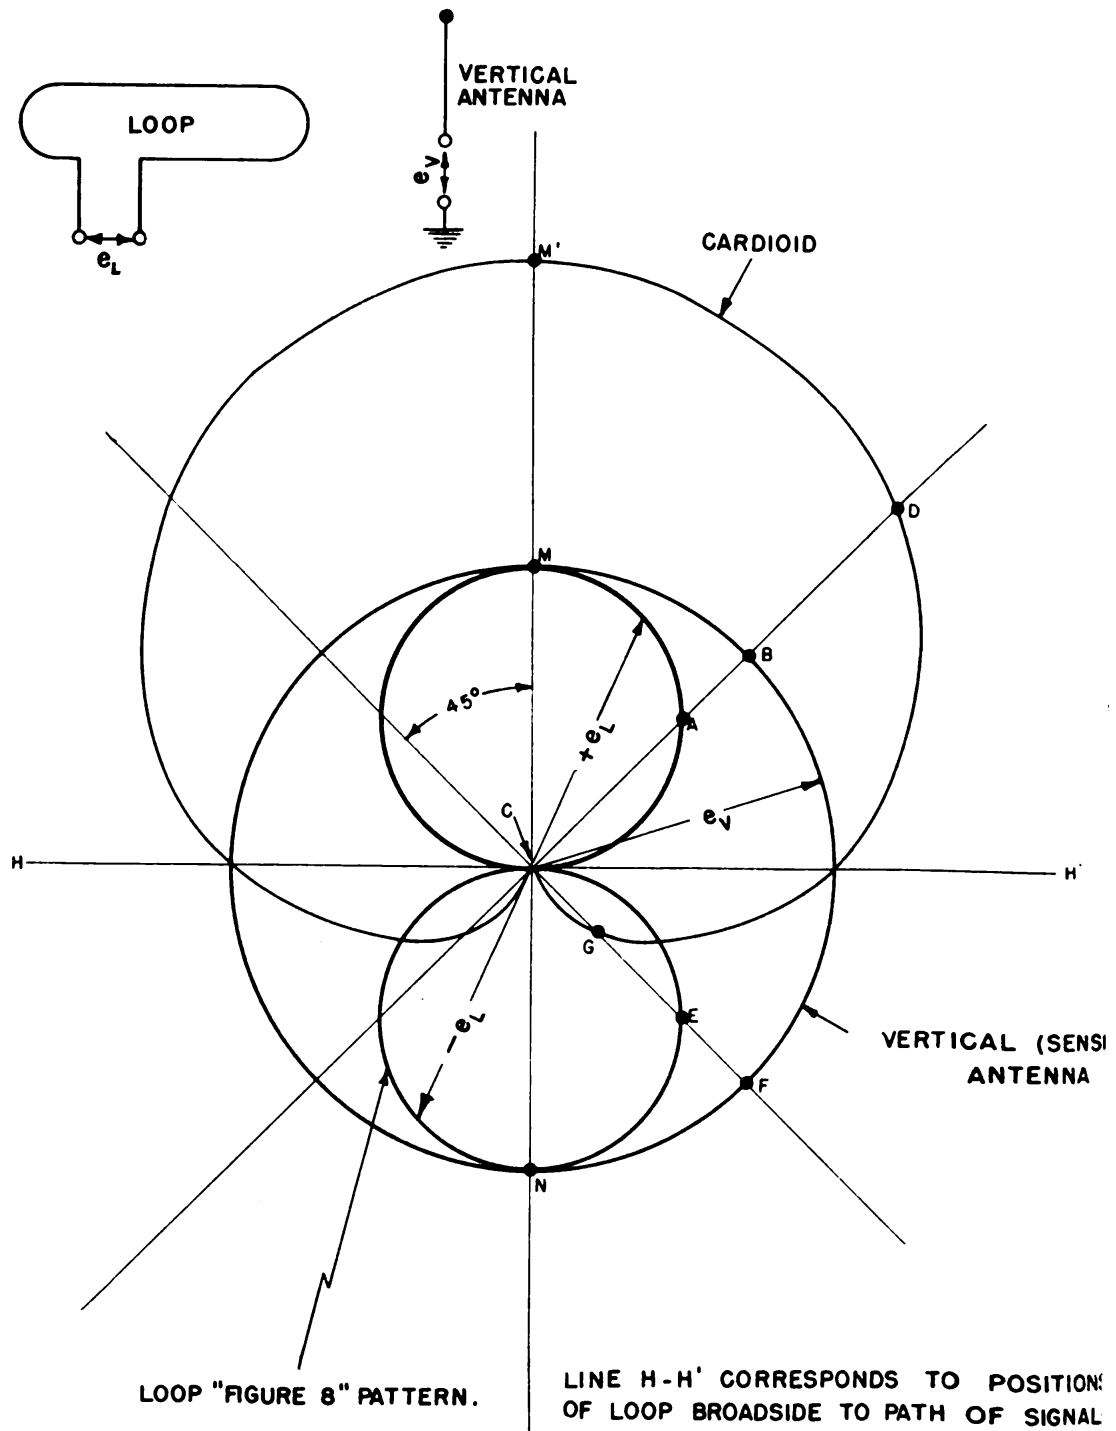
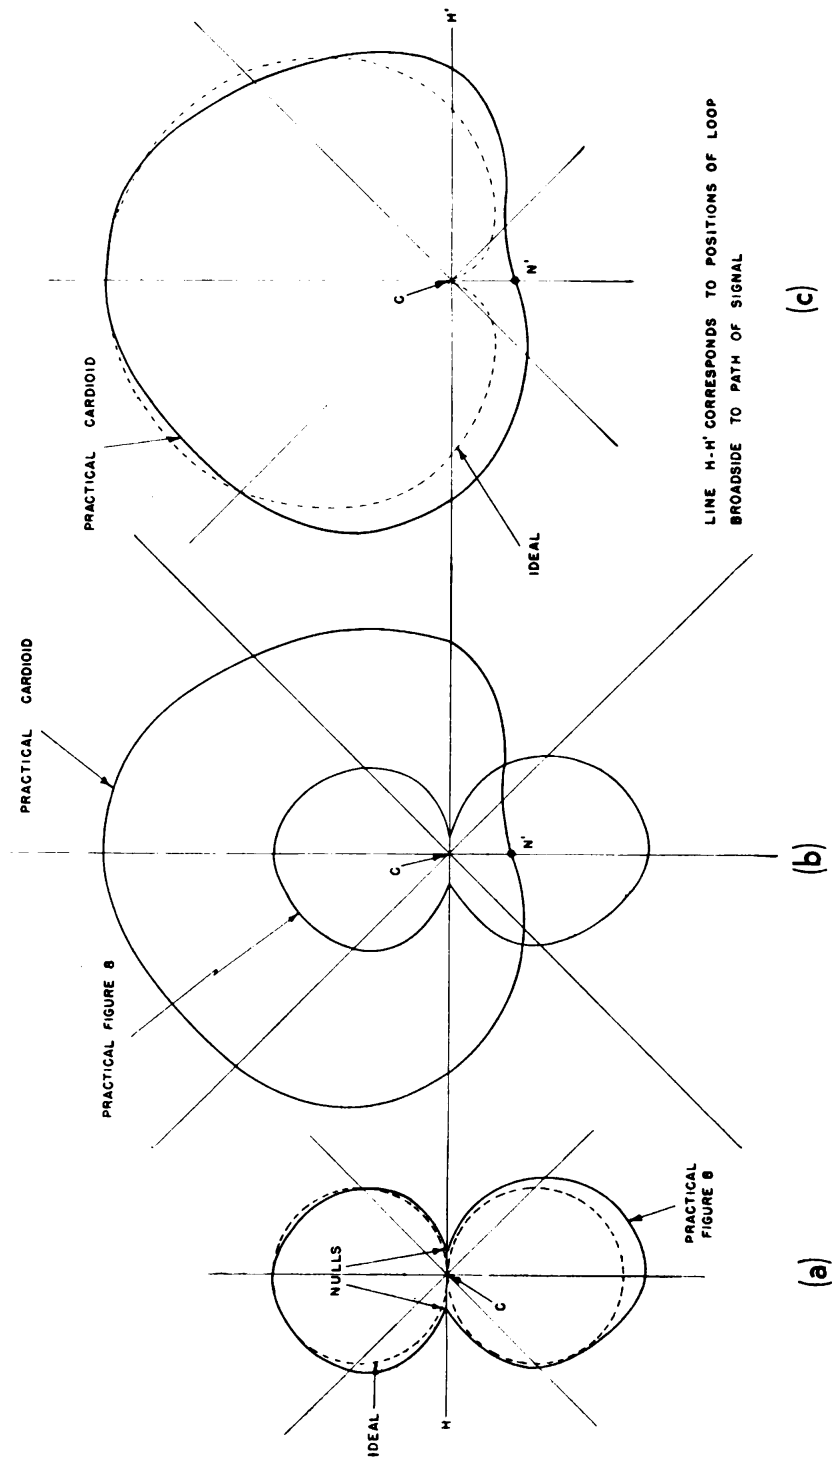

Figure 18. Derivation of Ideal Cardioid From Ideal Antenna Patterns
Figure 19. Practical Cardioid and Figure 8 Antenna Patterns
(7) The beat-frequency oscillator which is used for monitoring unmodulated signals is tuneable to 454 kc by means of trimmer (3-9). The oscillator uses a tube (118-5) in a plate-tuned, inductive feedback circuit. The secondary of the b-f oscillator transformer (106) is shunted with a fixed capacitor (21-3) to provide the proper frequency range. Normally the b-f oscillator is tuned to 454 kc, giving a 1000-cycle beat with the 455 kc i.f. The second harmonic produced by the b-f oscillator is used to beat with the 910 kc i.f. The BFO OFF-ON switch (131-1) in the "B" supply circuit, permits the oscillator to be controlled from the top plate. Coupling from the b-f oscillator to the i-f channels exists through the common supply circuits and by virtue of the strong fields the oscillator produces.
(8) Since this receiver is required to give an auditory indication of changes in signal input, the use of A.V.C., as in conventional receivers, is out. Accordingly a manual volume control system is used. This system not only reduces the audio output, but increases the bias on certain tubes (118-1) and (118-2) so that these are not overloaded by strong signals. Electrically, the panel volume control (69) works the same as the control-plate control (70). The VOLUME CONTROL TRANSFER switch (130-2) connects one or the other in series with the "B" lead. The voltage drop in the control combined with the "A" battery voltage is applied to resistors (59) and (60). The junction of the latter provides a bias voltage suitable for the grid of the r-f tube (118-1). A similar arrangement provides bias for the first i-f tube (118-2), with the exception that only half the volume control voltage-drop is used. Resistors (56-3) (56-4) divide the voltage drop. The other divider (68-1) and (68-2) in the grid return of the first i-f tube (118-2) again reduces the voltage in suitable proportion relative to the potential of the filament.
a. The directional characteristic of a loop antenna is shown in figure 18. This pattern is popularly known as a "figure 8". Under ideal conditions this pattern could be obtained by measuring the voltage at the terminals of a loop at successive angular positions of the loop as is it rotated through 360 degrees in a horizontal plane. The voltages measured are plotted as radial distances from the
center of the graph at C, figure 18. An examination of the ideal "figure 8" pattern shows that for two positions of the loop the voltage is zero. In these two positions the loop is broadside to the arriving waves. The maximum voltage points on the "figure 8" at M and N correspond to the two positions where the loop is in line with the path of the waves, that is at $\pm 90^\circ$ from the broadside positions. The two positions giving zero voltage are referred to as the "nulls". The nulls are of great importance since they are a sensitive means of determining the path of the signal. However, when ideal conditions are no longer obtained (in a practical case), the nulls of the "figure 8" don't go to zero, as shown for the "practical" case in figure 19(a). Nevertheless, they can still be used as before, except that instead of observing an absolute zero, the minimum must be found.
c. In direction-finding it is necessary to know more than just the path of the signal, namely whether the signal is "coming or going". The latter operation is commonly referred to as finding the "sense" of the direction, or more simply just as "sensing". That is, in addition to the loop, which indicates by means of the "nulls" either of two directions from which the signal may be coming, a sensing device is needed to pick up the true direction. This need is filled by the vertical rod antenna (called "sensing" antenna) used in conjunction with the loop. The directional characteristic of a vertical antenna under ideal conditions is shown in figure 18 by the large circle. Stated in words, figure 18 says that the voltage produced by a vertical antenna remains the same when rotated about its axis. This is popularly known as a "non-directional pickup".
tern, likewise shown in figure 18, is called a cardioid because of its heart-like shape. The reason this shape is obtained when the “figure 8” and the circular pattern are added together is that the voltage in the lower lobe of the “figure 8” is opposite in time-phase to the voltage in the circle pattern, while the time-phase of the voltage in the upper lobe of the “figure 8” is in agreement with that of the circle pattern. Thus for each direction above the horizontal line H-H' (running through the nulls) the voltages add together such as: $CA + CB = CD$; and for each direction below the horizontal line the “figure 8” voltage subtracts from the circle voltage, such as: $CF - CE = CG$.
The most notable departure of an actual sense curve or practical cardioid is shown in figure 19 (c) by the failure of the curve at N' to go through C. This is caused by the failure of the voltages from loop and vertical antenna to cancel each other as a result of phase shift and unequal “pickup”.